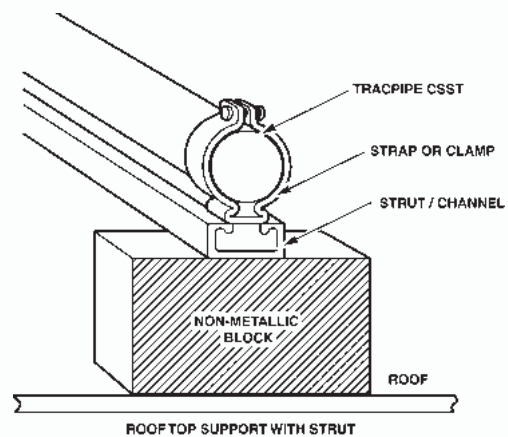

Figure 4-15
3. *TracPipe* may be supported with strut/channel running from block to block beneath the flexible gas pipe. Galvanized shallow channel (13/16") with splice plates at joints and bends provides a secure, damage resistant "track". With metallic strut support, blocks can be reduced to every 8 feet. The *TracPipe* should be firmly attached to each block with metallic clamps designed for the strut or appropriate fastening mechanism. (See Figure 4-15) Black cable ties (UV resistant) at intermediate points facilitate rolling out the *TracPipe*. The blocks are to be attached to the roof surface in accordance with the roofing manufacturer's instructions.